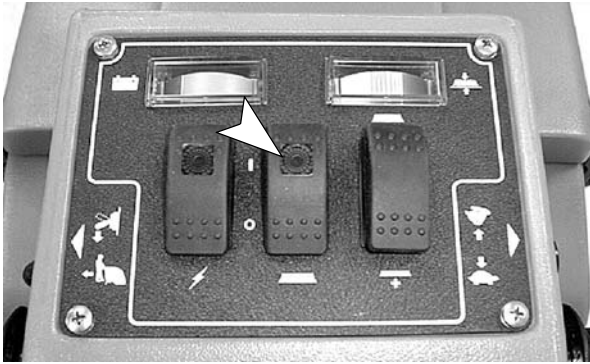

FIG. 16
8. To transport machine, turn off pad switch and twist control grips. Pad will automatically raise to the transport position (Figure 16).